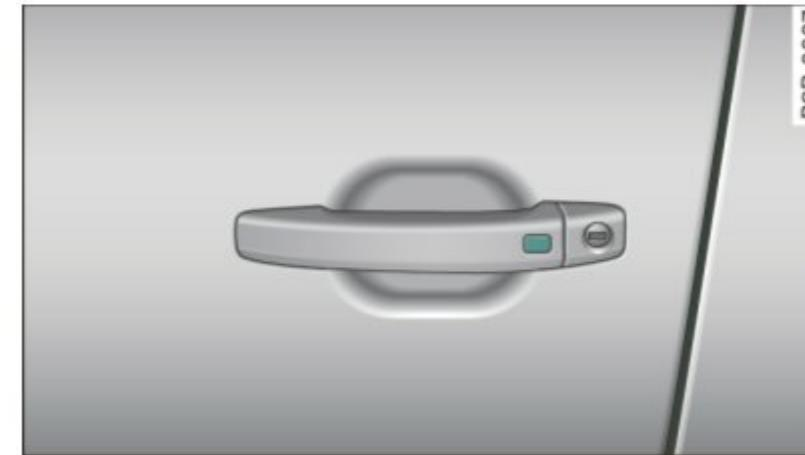

Fig. 36 Door handle: Locking the vehicle
- Touch the sensor at the door handle ⇒ *fig. 36* to lock the vehicle ⇒  in “General description” on *page 40*.